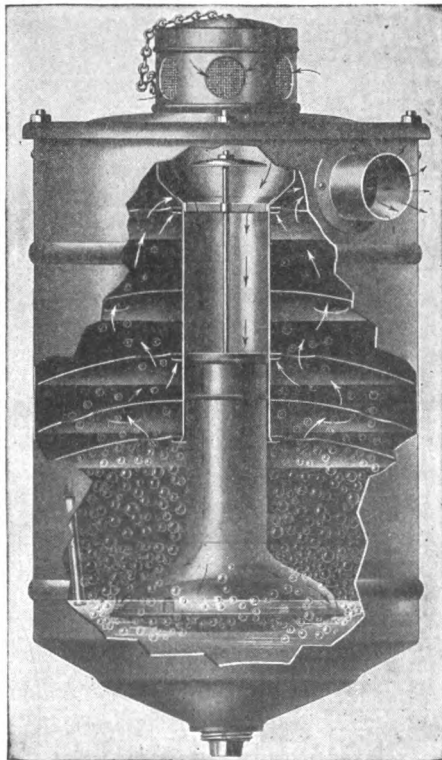

Fig. 131. Parrett Air Cleaner for Removing
**Parrett Air Cleaner.** A similar device working on a different principle is the Parrett air cleaner shown in Fig. 131. Air enters at the top and is drawn downward through the central tube, the lower part of which is flared out and is supported on a metal float smaller than the bottom of the bell. The air passes between the two, through a very narrow opening, at high velocity. Large